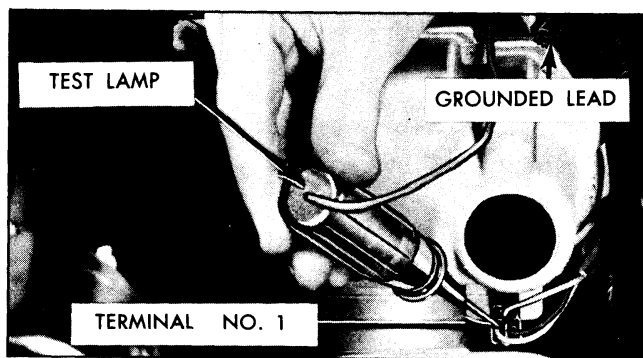

Fig. 12-41 Testing for Current at No. 1 Terminal
2. Using a test lamp, ground one test lamp lead and touch other end to terminal No. 1, Fig. 12-41. Test lamp should light. If lamp fails to light, check for blown fuse and check entire motor circuit.